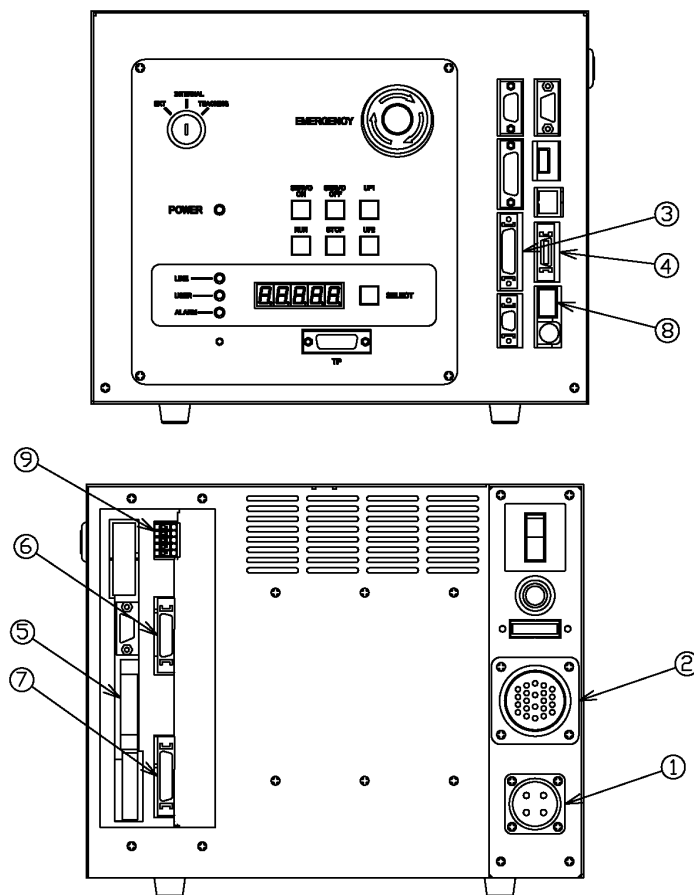
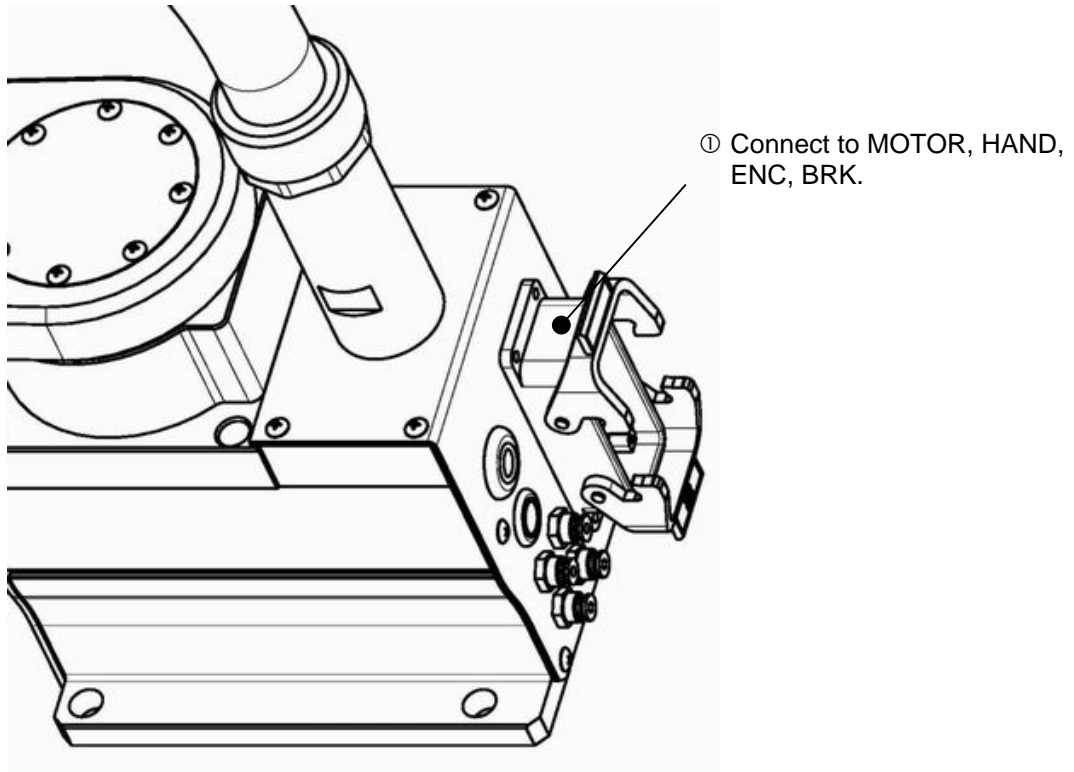

Fig. 4.1 Robot controller connector arrangement
Fig. 4.2 Robot side connector arrangement
The cables connected to the robot controller are shown in Fig. 4.1.
(① of Fig. 4.1; plug connector attached)
The connector is ACIN (① of Fig. 4.1).
(② of Fig. 4.1) (Cable attached)
The connector for connecting the motor cable is MOTOR (② of Fig. 4.1). Location of the motor cable on the robot side is ① in Fig. 4.2.
(③ of Fig. 4.1) (Cable attached)
The connector for connecting the encoder cable is ENC (③ of Fig. 4.1). Location of the encoder cable on the robot side is ① in Fig. 4.2.
(④ of Fig. 4.1) (Cable attached)
The connector for connecting the robot control signal cable is HAND (④ of Fig. 4.1). Location of the robot control signal cable on the robot side is ① in Fig. 4.2.
(Ⓢ of Fig. 4.1) (Cable attached)
The connector for connecting the brake signal cable is BRK (Ⓢ of Fig. 4.1).
The connector for connecting the brake signal cable on the robot side is located at ① in Fig. 4.2.